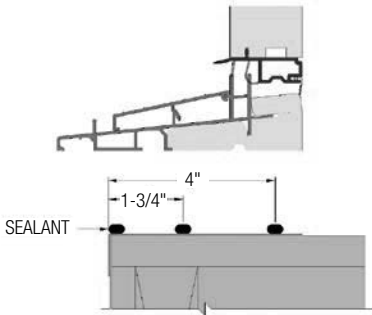

FIG. 9: 4-9/16" & 6-9/16" IN-SWING PATIO DOOR SILL
- Apply three 1/4" continuous beads of silicone across the entire width of the rough opening. Note that the locations are different for each door type. (See Figs. 9 & 10) Figure 9 shows the silicone location for a 4-9/16" and 6-9/16" in-swing door. The bead location will be different for other jamb sizes.